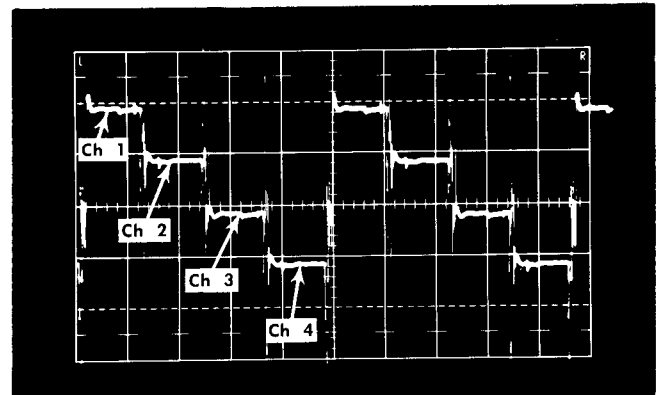

Fig. 7-10. Checking for proper chopped mode of operation. Sweep rate: $2 \mu\text{s}/\text{cm}$.
- d. Using the Type 1A4 POSITION controls, position the chopped traces so Channel 1 is about 2 cm above the graticule centerline and the traces for the other channels follow in sequence one cm apart below Channel 1. Readjust, if necessary, the oscilloscope Triggering Level control so the Channel 1 trace segment is displayed first (see Fig. 7-10).
- e. CHECK—For a chopped display (see Fig. 7-10). The trace segments for all four channels should be displayed.